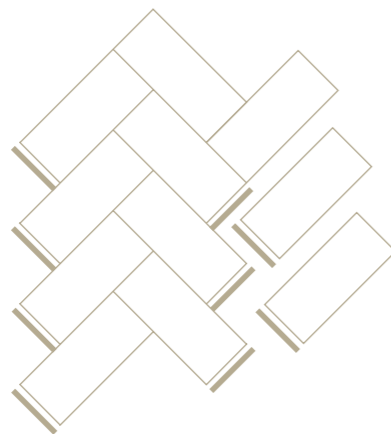

Figure 6: Pushing the planks closely together. Inserting the loose tongue in the end groove.
3. Push a loose tongue into the end groove on all the glued-down planks and into the end groove of the new planks. All joints between planks must have a tongue/groove joint. Do not glue the tongue. Discard any tongues that are too thin or too tight. See figure 6.
4. Glue down the next row. Set the planks into the glue as close to the adjacent planks as possible, pushing the planks firmly down and against the adjacent planks or the temporary spacing blocks to prevent glue from getting into the tongue/groove joint. See figure 6.